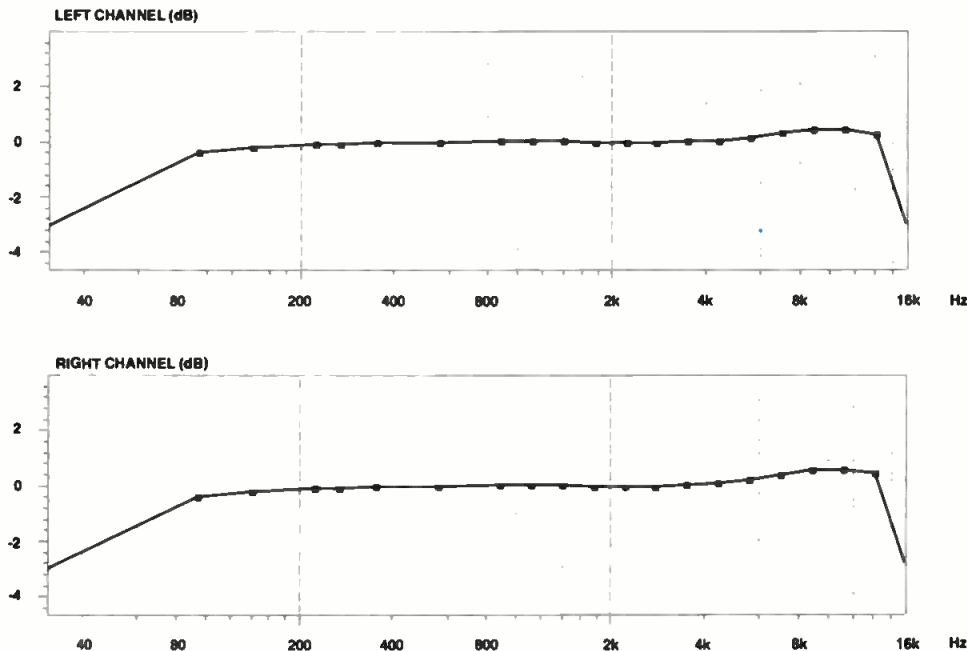

Figure 2. Level vs. frequency plots are one of several typical multitone displays.
Although implementations of multitone analysis vary from vendor to vendor, most provide plots of level vs. frequency, level difference between channels, phase difference between channels vs. frequency, and noise and/or distortion vs. frequency. Figures 2 and 3 show two other types of
**Figure 2.** Application of windowing prior to the FFT drastically reduces the effects of leakage. Within 23.44Hz either side of the fundamental, leakage is more than 90dB down.
The graph in Figure 2 shows the effect of applying a Blackman-Harris window to the same data. After only four bins either side of the fundamental, the leakage is down more than 90dB. In actual application, an algorithm can determine the exact frequency and amplitude of the fundamental. To compensate for significant shifts in pitch, the spectra surrounding each expected multitone fundamental may be searched  $\pm 5\%$  of the frequency of each fundamental.